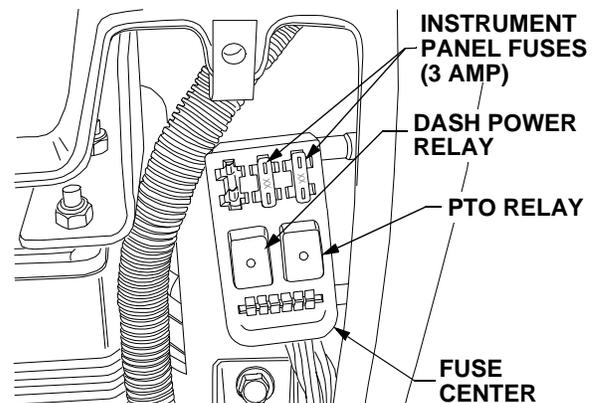

Figure 42
- Pull the two fuses from the fuse center and check their condition. Replace a blown fuse with the same capacity fuse (3 Amp). Refer to Figure 42.
The PTO relay and dash power relay, located in the fuse center, maintain power to each of those circuits. If one of the circuits is not functioning properly, have your dealer electrically check the relay. See Figure 42.